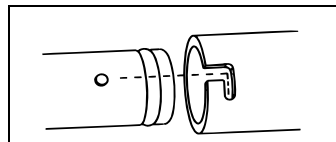

Fig. 1
2. If catheter is removed from sheath or catheter insertion is delayed, introduce the entire length of the SLIC® assembly through the hemostasis valve/sheath assembly. Twist to lock (refer to Fig. 1).